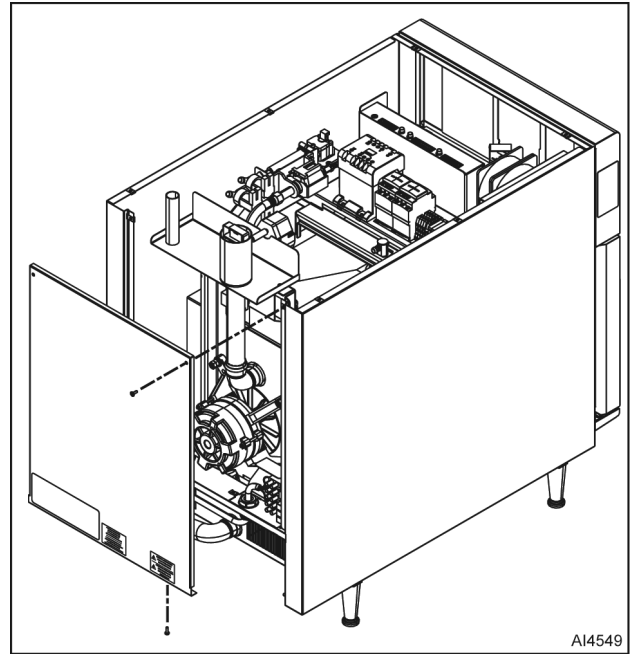

Fig. 2
2. Remove screws and back cover (Fig. 2).